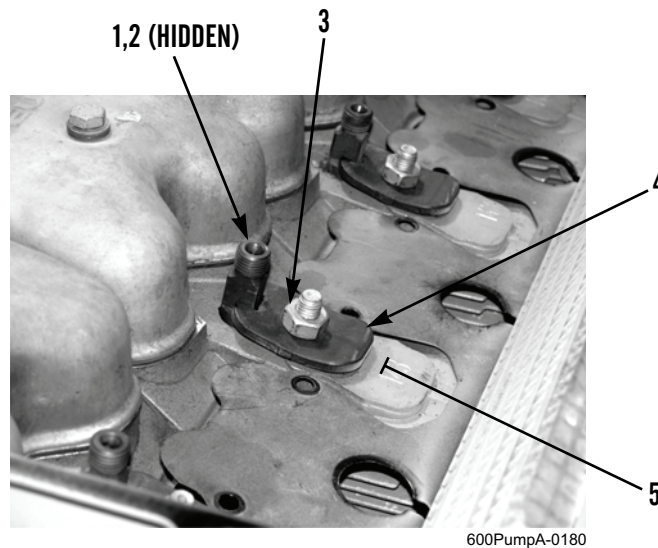

Figure 5. Fuel Injector.
1. Install new seal (Figure 5, Item 2) on fuel injector (Figure 5, Item 1).
2. Install fuel injector (Figure 5, Item 1) into cylinder head (Figure 5, Item 5).
3. Secure fuel injector (Figure 5, Item 1) to cylinder head (Figure 5, Item 5) with clamp (Figure 5, Item 4) and nut (Figure 5, Item 3). Tighten nut to 18 to 26 lb-ft (25 to 35 Nm).